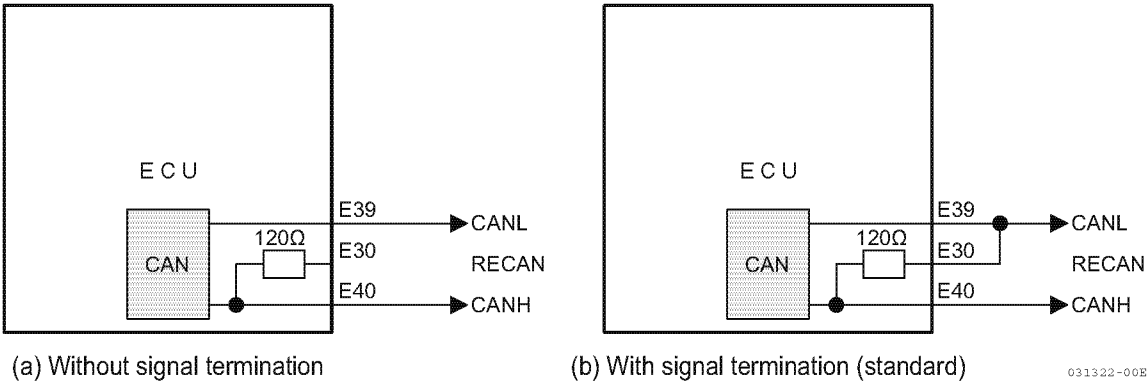

Figure 14-12 CAN Terminator Setting
Since the E-ECU has a built-in 120Ω CAN terminator, the CAN signal can be terminated by joining the RECAN terminal (E30) and CANL terminal (E39) with the E-ECU harness, as shown in **Figure 14-12 (b)**.
- ➔ Since a CAN terminator is required for a YDT connection, you must use the wiring shown in **Figure 14-12 (b)**.
Without a terminator (another device)	Follow Figure 14-12 (b)